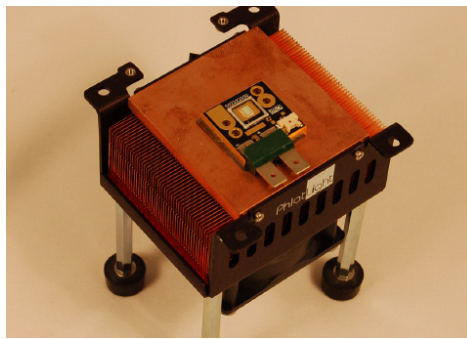

Figure 12: Device aligned on heat sink
3. Place the LED on the thermal pad such that the hole patterns match (Figure 12).